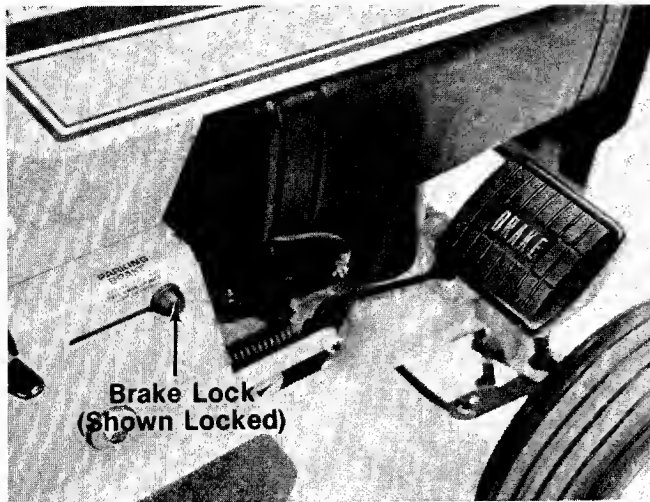

FIGURE 11.
The brake pedal is located on the right hand side of the tractor and is operated by depressing it with your right foot. See figure 11.
The brake lock is located on the right hand side of the tractor. To lock the brake, depress the brake pedal and lift up the lock button. The pedal will stay depressed. To release, depress the brake pedal. Always lock the brake when you park the mower. See figure 11.
3. Depress the brake pedal and lock it down with the brake lock. See figure 11.